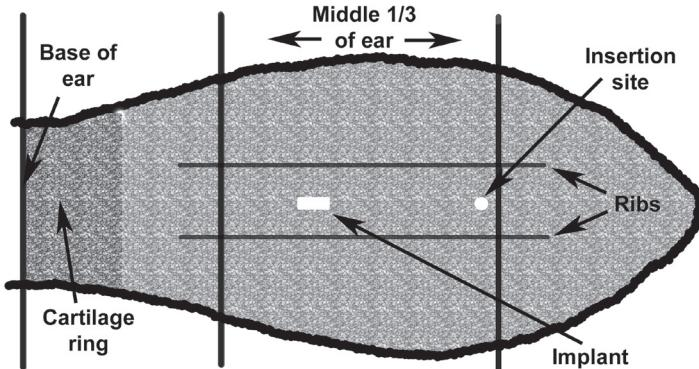

Figure 1. Proper Implant Site
5. Select the proper implant site on the back of the ear (figure 1).